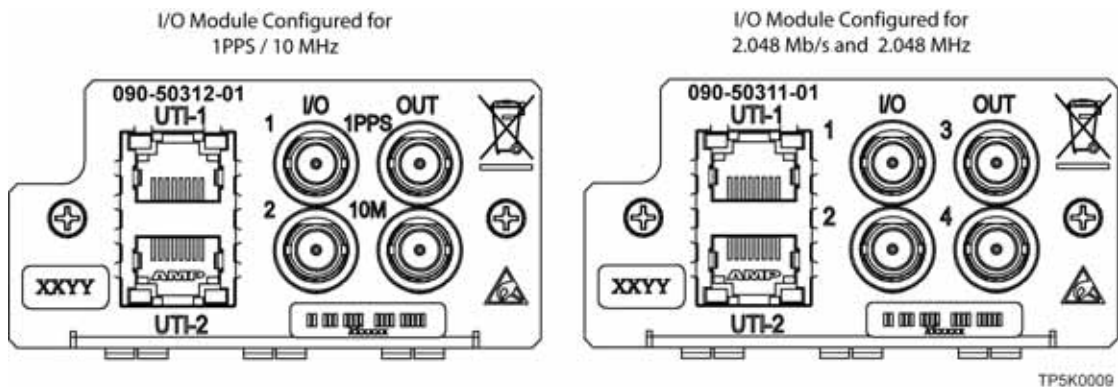

Figure 1-3. I/O Module
The four traditional telecom synchronization mini-BNC ports on the I/O module (Figure 1-3) are software configurable as output ports with the following signal types:
2. The UTI connectors in Figure 1-3 are for future use.
Mini-BNC ports 1 and 2 on the I/O module (see Figure 1-3) are software configurable as traditional telecom input ports with the following signal types: